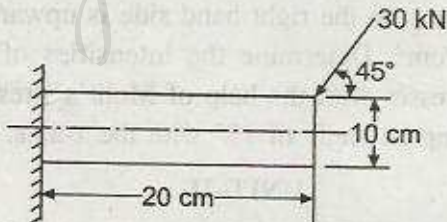

Fig. 2
5. A machine component as shown in Fig. 2 is subjected to an inclined force of 30 kN at an angle of 45° with the horizontal. The section of the machine component is rectangular 2 cm wide by 10 cm deep. Determine the section of maximum and minimum bending moments. Also calculate the stresses in the top and bottom layers at the above sections. 20